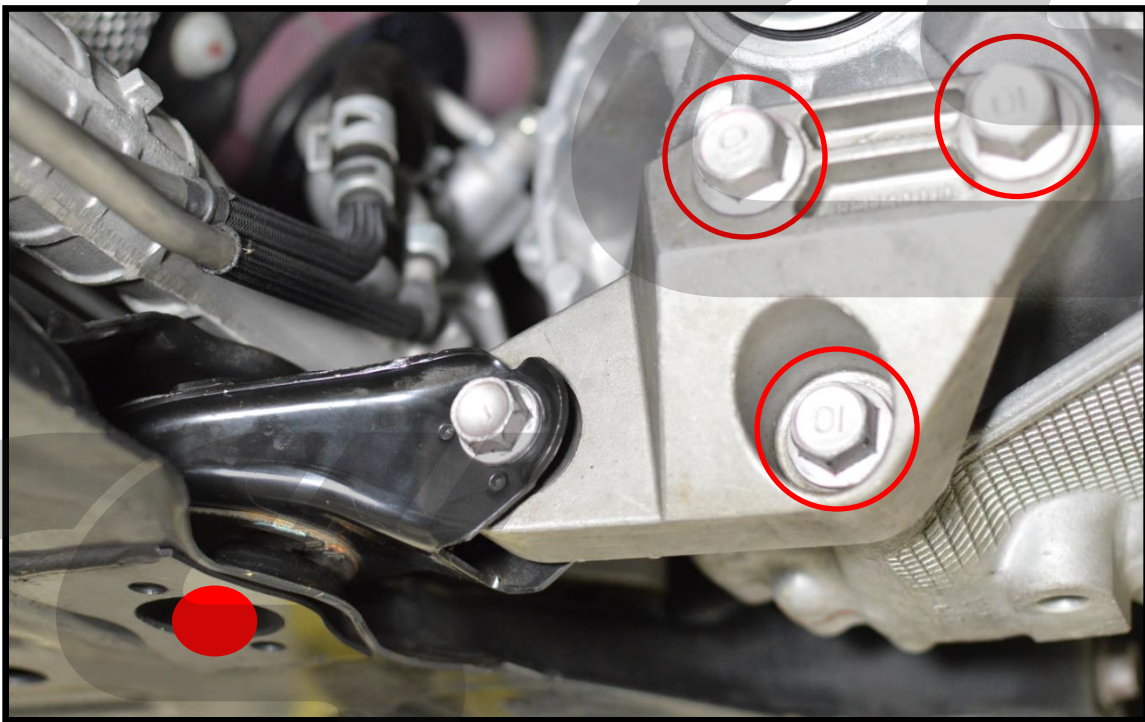

Figure 1a
- c) Locate the OEM RMM in **Figure 1a**.
- d) **Disassemble the OEM RMM assembly.** Remove the three 19mm flange bolts attached to the transmission shown with the **red circles in Figure 1a**. Note: two of these bolts will be reused.
- e) **Remove the OEM RMM.** Remove the one 17mm bolt shown with the **red dot in Figure 1a**.